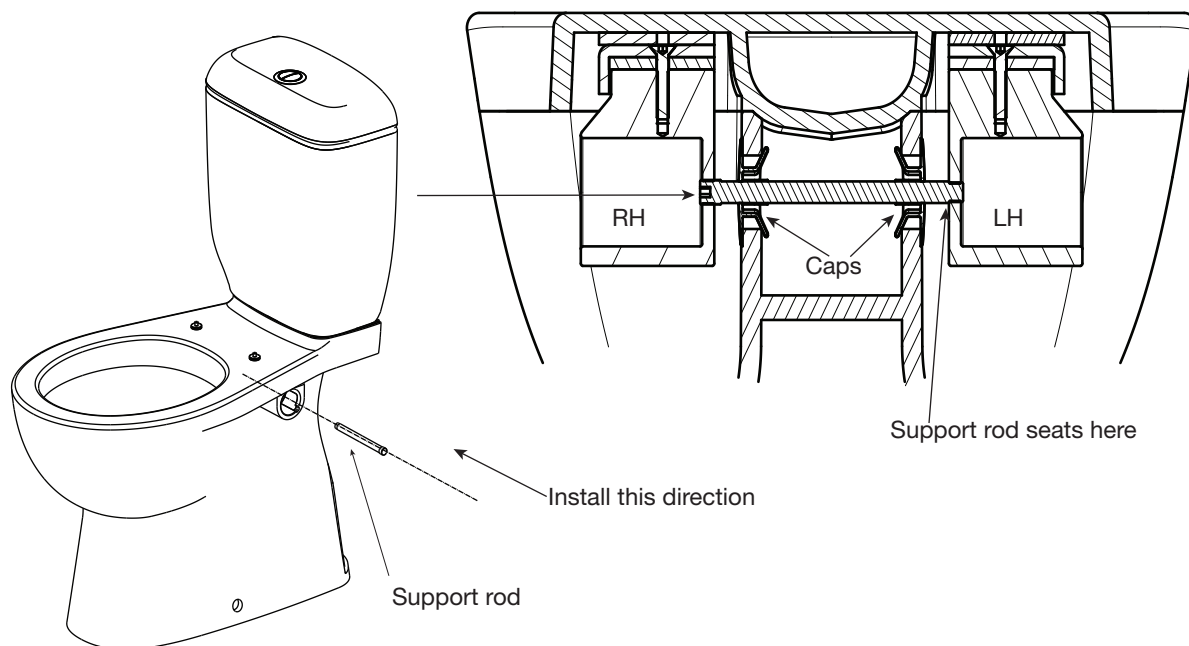

Fig. 7
8. Install support rod from right hand side as shown in **Fig. 7**. Ensure rod passes through holes in RH hinge block and blanking caps and engages into thread on LH hinge block. Screw in until rod seats on LH hinge block. Rod will be flush or protruding 1.5mm from RH inner face.